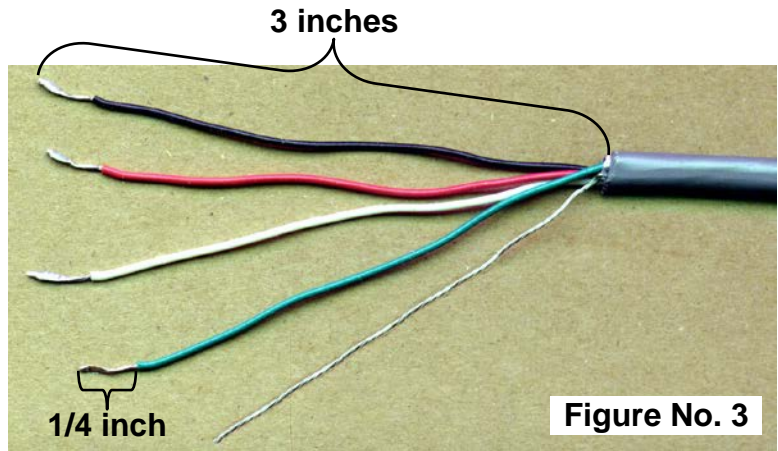

Figure No. 3
5. Referring to Figure No. 3, remove 3 inches of the outer insulation jacket.